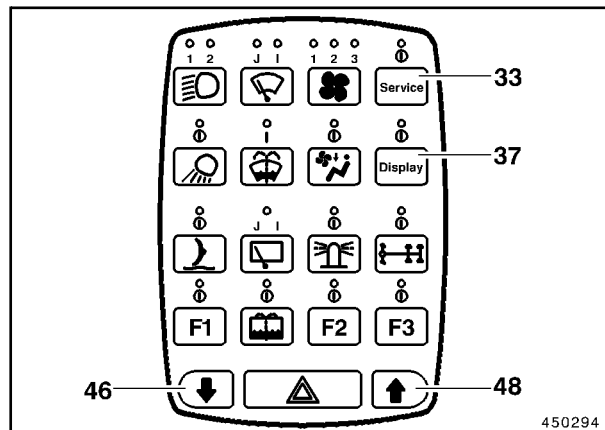
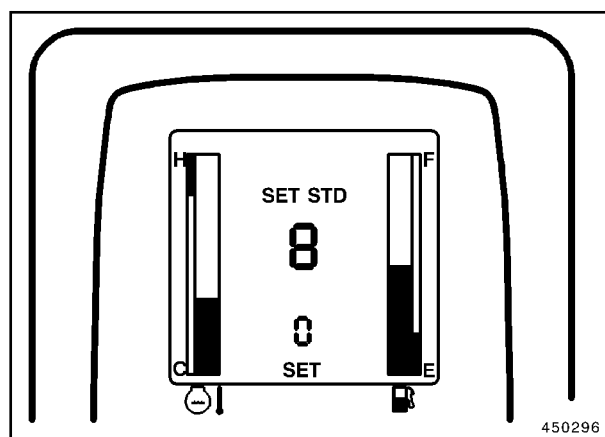

Fig. 7
Fig. 8
- Press button (33, Fig. 7) until **"Code Y/N"** appears. LED above button lights up.
- Press button (37); LED above button lights up.
The display shows **"SET STD"** as in Fig. 8. The display for hours can be set by pressing button (46) or (48) until the required display for hours is reached:
- Button (48) = each time the button is pressed, the display increases by one.
- Button (46) = each time the button is pressed, the display is reduced by one.